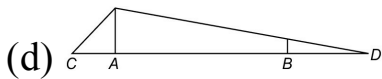

Fig. Q. 14
14. In a double overhanging beam with supports at A and B the shape of influence diagram for reaction at A is (Ref. Fig. Q. 14)